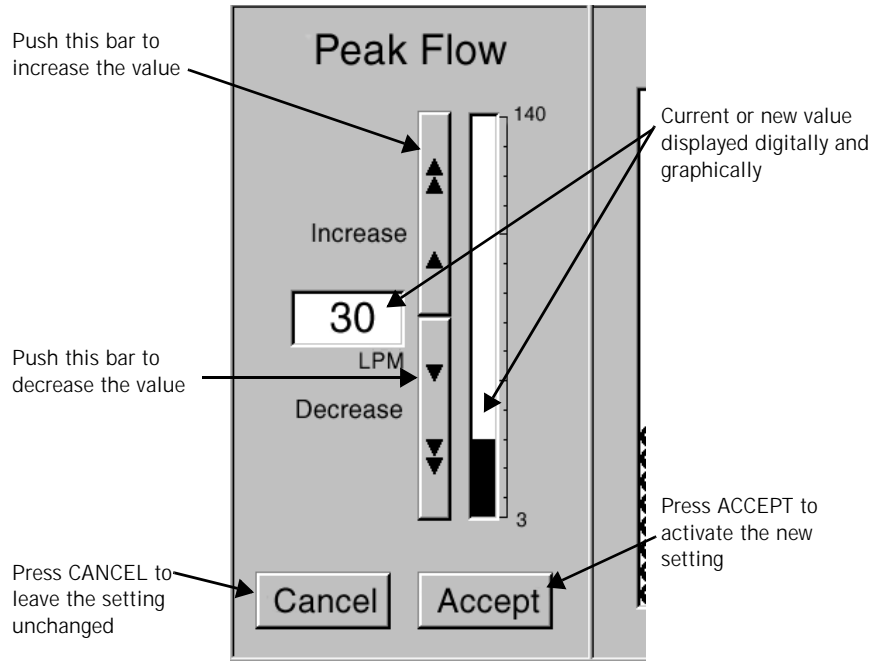

Figure 8-14: Changing a Setting
2. Push the button for the control settings you want to select. The ventilator displays the current value for that parameter in an insert that allows the operator to adjust the settings value. (Figure 8-14).
When a value is entered, as shown in Figure 8-14, the ventilator checks to assure that the value has been accepted by the operator, is within limits, and will not cause other settings to be out of limits. If the new value causes these limits to be exceeded, a diagnostic message will be displayed. (Refer to "Value Entry Message" on page 12-4 for more details about the diagnostic messages).
2. Push the button for the alarm limit you want to adjust. The ventilator displays the current value for that alarm limit in a display insert, similar to Figure 8-14.
- Press the bar or use the front panel knob to adjust the value (as shown in Figure 8-14).